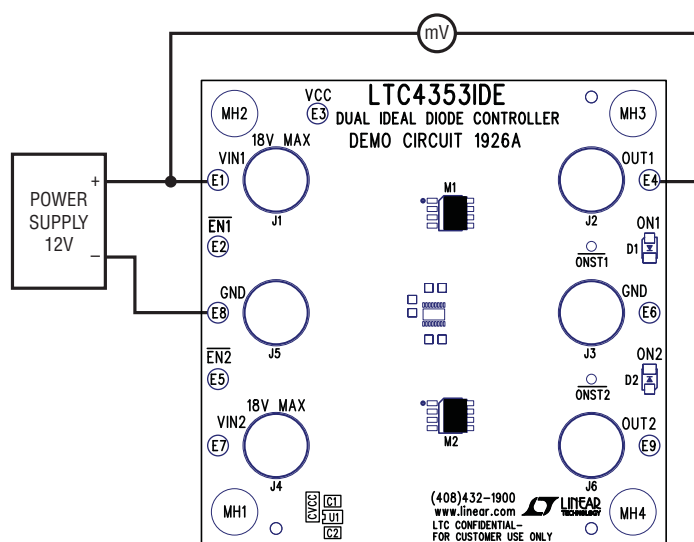

Figure 1. Ideal Diode Regulation Voltage Measurement
1. Connect a 12V power supply to $V_{IN1}(+)$ and GND $(-)$ of the DC1926A. Place a millivoltmeter between the input (V_{IN1}) and output (OUT1) turrets (refer to the diagram of Figure 1). This is the controller regulation voltage. The regulation voltage should be in the range of 2mV to 50mV.